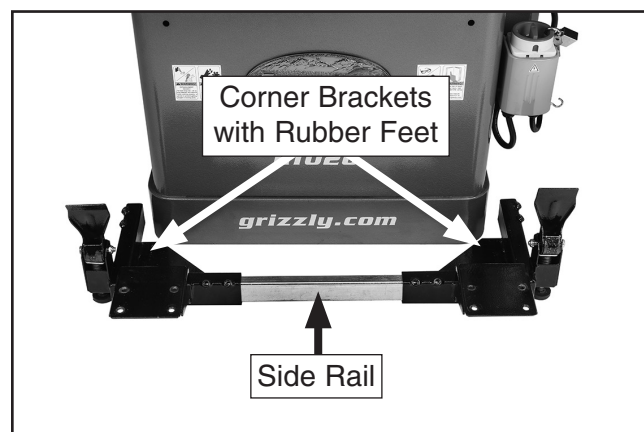

Figure 14. Rail inserted between corner brackets with rubber feet.
3. Insert one side rail into the two front brackets, as shown in **Figure 14**, then slide the bracket assembly against the side of machine that will typically be pushed against when moving the machine.